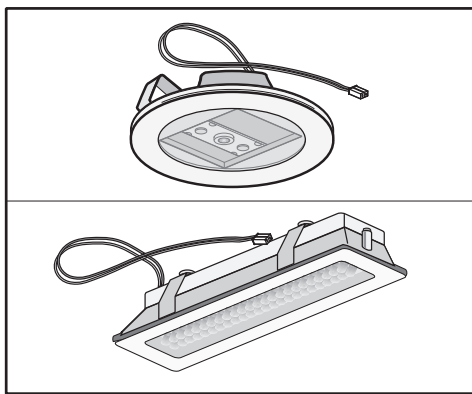

Fig.7
4.1 Replacing LED lamps (Fig.7): 9
4.1 Replacing LED lamps (Fig.7):